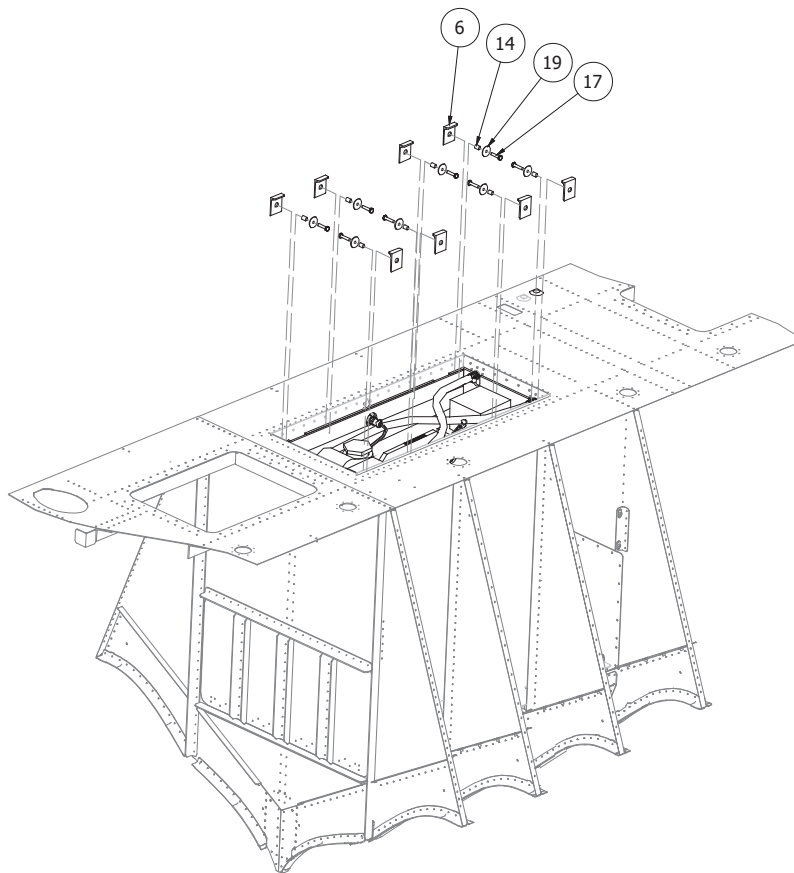

Figure 9
6. Install the noted shims between the tank and the baggage lip, secure the tank with noted fasteners per Figure 9.